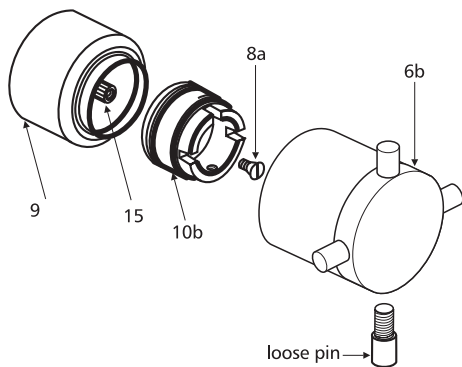

Figure 17
- Push the volume control handle carrier (10b) on to the splines of the gear wheel drive shaft (15) and secure with screw (8a).
- Push the volume control handle (6b) onto the carrier (10b) ensuring that the missing pin position lines up with the un-slotted hole on the carrier (10b). (Figure 17)